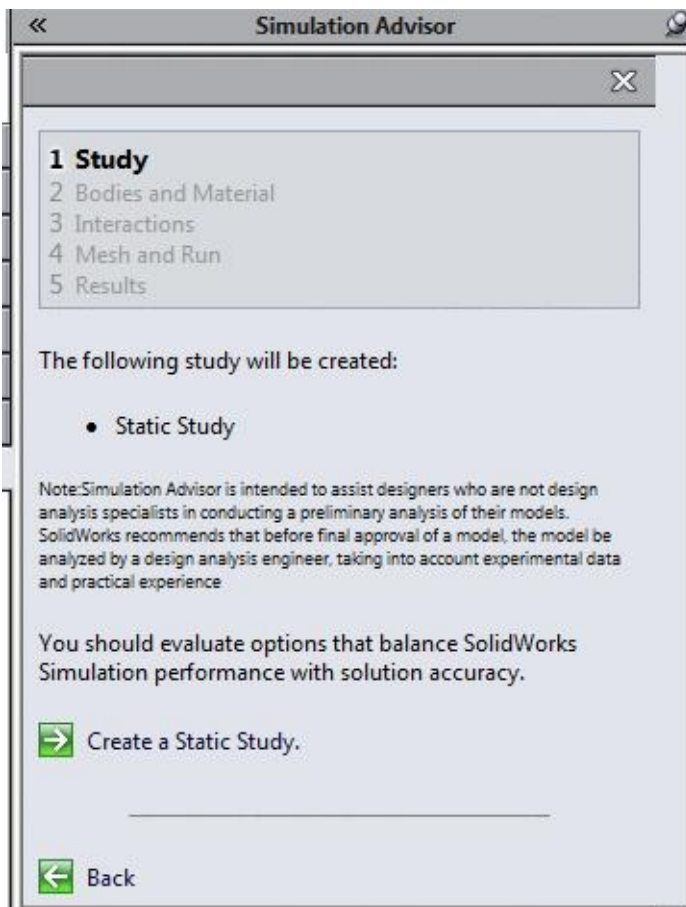

Figure-38. Simulation Advisor with Study name
- Click on the **OK** button from the **PropertyManager** and then click on the **Next** link button from the **Simulation Advisor**, the name of the study that suits your requirements will be displayed; refer to Figure-38.